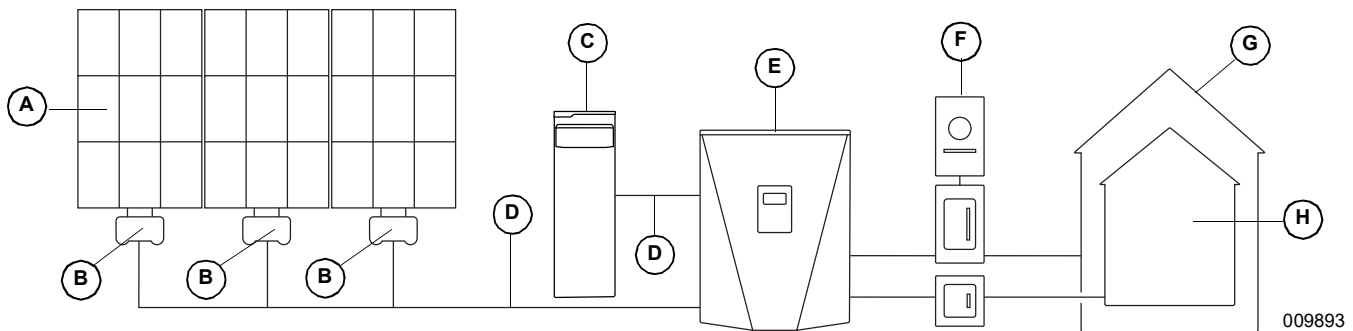

Figure 2-3. Generac PWRcell System Example
PWRcell Inverters use the REbus™ 380 VDC nanogrid to connect DC-coupled PWRcell devices. The REbus nanogrid automates the flow of power to enable plug-and-play setup and operation of PWRcell equipment. For more information about REbus, visit www.generac.com. In **Figure 2-3** PWRcell Inverter (E) is directly connected to PV Link optimizers (B) and PWRcell Battery (C) on DC (REbus) lines (D). To the right of the inverter are AC lines: 120/240 VAC or 208 VAC for grid and home loads (G) and protected loads (H).